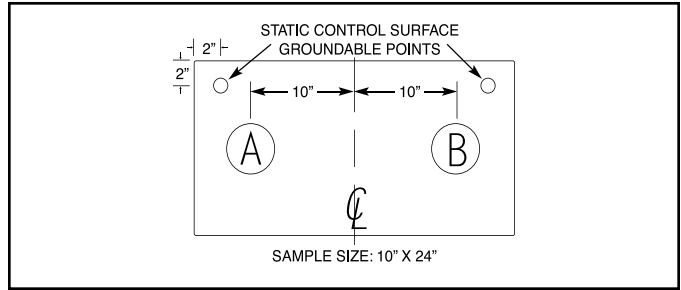

Figure 6. Material Evaluation Sample Configuration.
- A. Prepare a minimum of six samples of each material to be tested as shown in Figure 6.